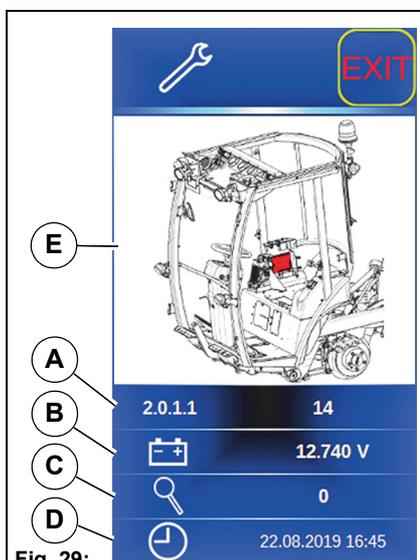

Fig. 29:
**Detailed service information sub-menu Fig. 29**